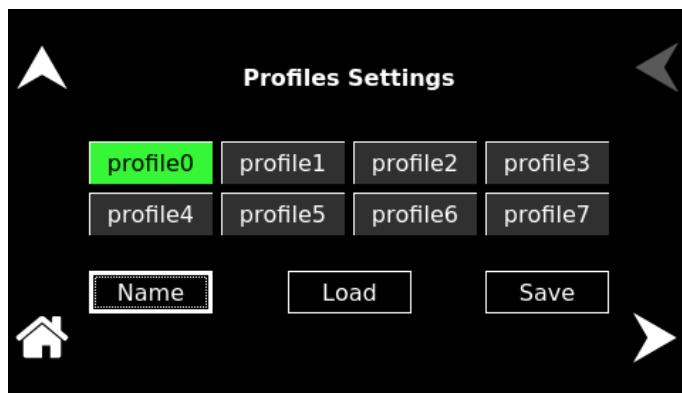

Figure 8-14: CONFIGURATION Menu, PROFILES Selection
2. Tap on the PROFILES field in the CONFIGURATION menu; refer to Figure 8-14.